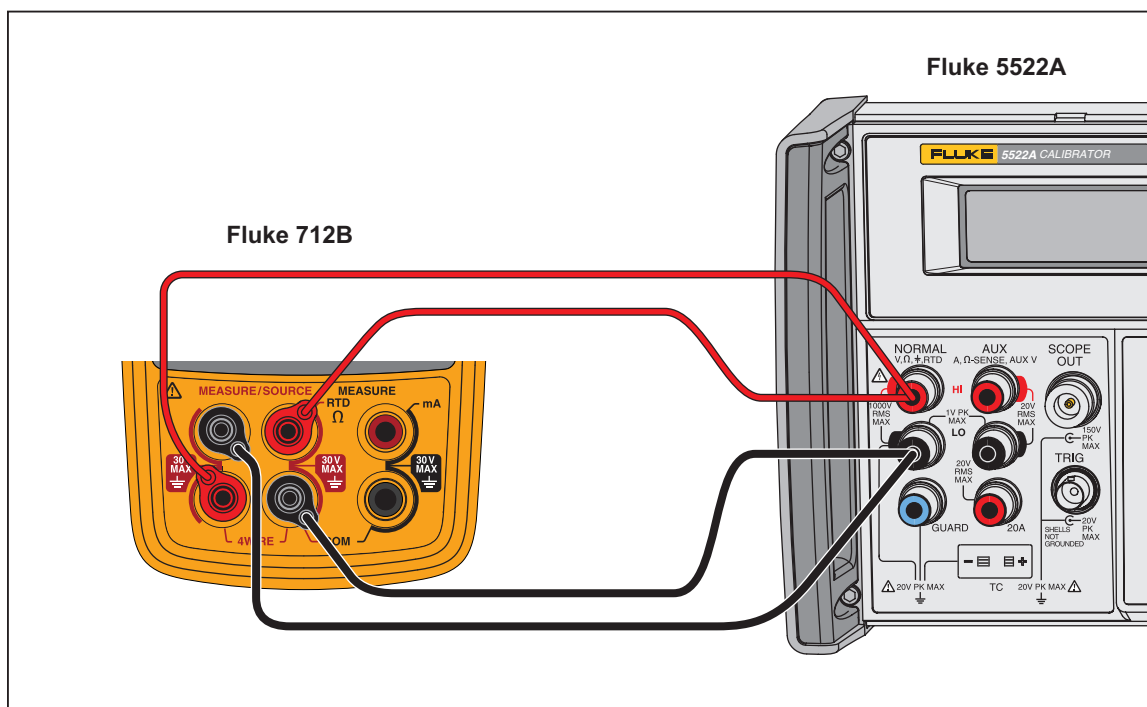

Figure 3. Verify 712B 4-Wire Ohms Measure
3. Make the connections between the 712B and the 5522A, as shown in Figure 3.